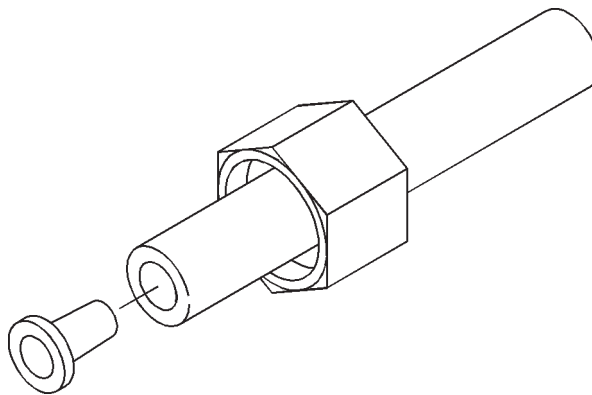

Figure 15. Brine valve tubing.
3. Slip the white nut over one end of the tubing and press the plastic insert into the end of the tubing (Figure 15). Connect to the brine valve and tighten nut.
5. Slip the white nut over one end of the tubing and press the plastic insert into the end of the tubing (Figure 15). Connect to the brine connection on the valve and tighten nut.